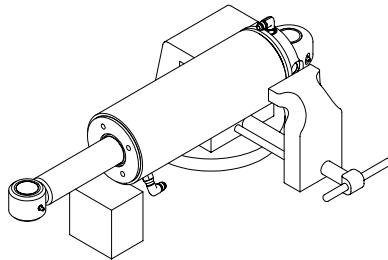

Figure 5-38, Cylinder Vise
2. Clamp the cylinder lightly at the base end in a soft-jawed vise. Use a block or other support under the rod end of the cylinder. (Figure 5-38)